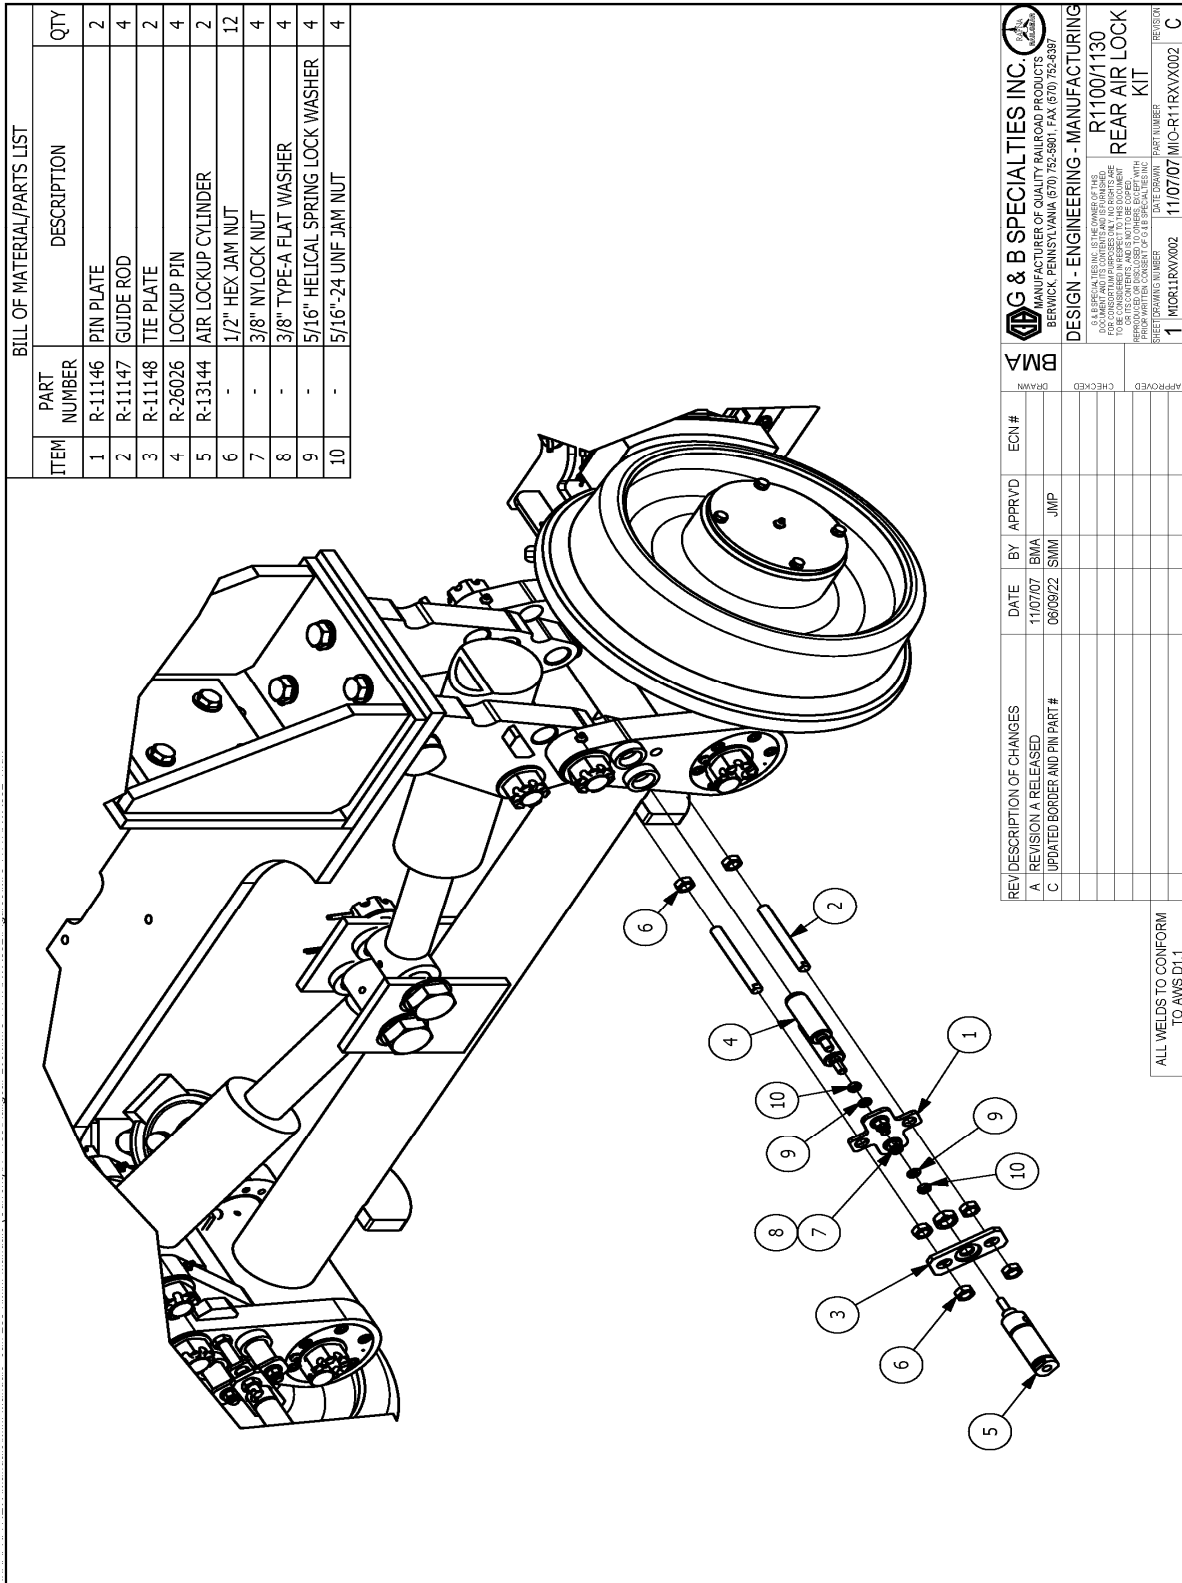

Fig 1
1. Fasten the two lockup pins (Item 4, Fig. 1) to the pin plate (Item 1, Fig. 1) using two 3/8" flat washers and two 3/8" nylock nuts (Items 7 & 8, Fig. 1) as shown in figure 1.
2. Thread the guide rods (Item 2, Fig. 1) into one 1/2" jam nut (Item 6, Fig.1) until there is 1/2" of thread sticking out. Thread the guide rods into the drilled holes, making sure only 1/2" of thread is in the holes, as shown in figure 1.
3. Fasten the tie plate (Item 3, Fig. 1) to the air cylinder (Item 5, Fig. 1) as shown in figure 1.
4. Fully extend the air cylinder and fasten the rod end of the cylinder to the pin plate using two 5/16" lock washers and two 5/16" jam nuts (Items 9 & 10, Fig. 1) as shown in figure 1.
5. Place the pin plate onto the guide rods and thread two 1/2" hex jam nuts (Item 6, Fig. 1) onto the guide rods as shown in figure 1.